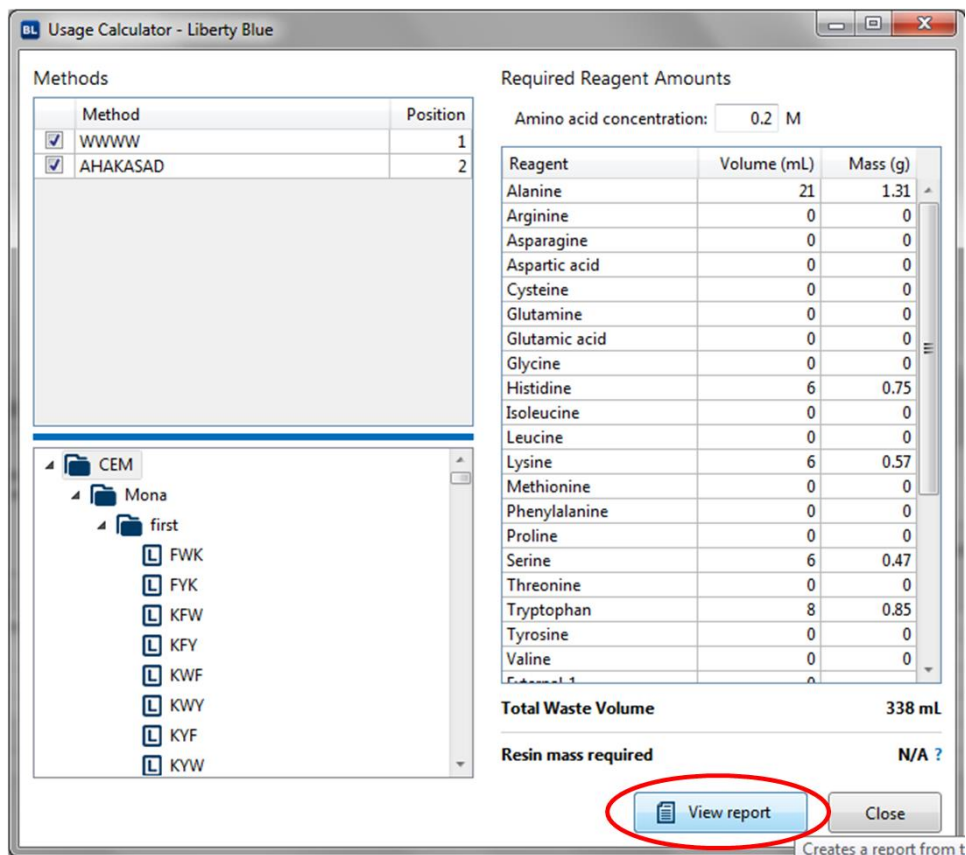

Figure 9. Click View Report to generate a usage report for this batch of peptides.
1. Open the *Calculators* ⇒ *Usage Calculator* and create a report by clicking *View Report*. Each of the peptides to be synthesized in the planned batch should be checked on the list. Be patient, it may take several minutes for this window to respond. It may be convenient to save the report to a USB stick and print it. (Figure 9)